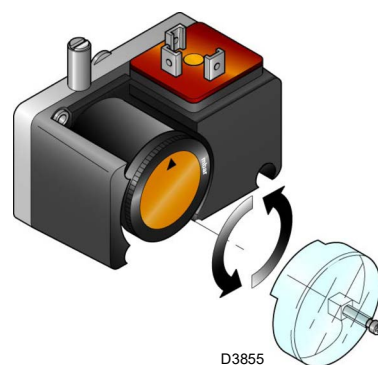

Fig. 29
- Adjust the minimum gas pressure switch (Fig. 29 at page 31) to the start of the scale.
Adjust the minimum gas pressure switch (Fig. 29) after having adjusted the burner, the gas valves and the gas train stabiliser. With the burner operating at maximum output: